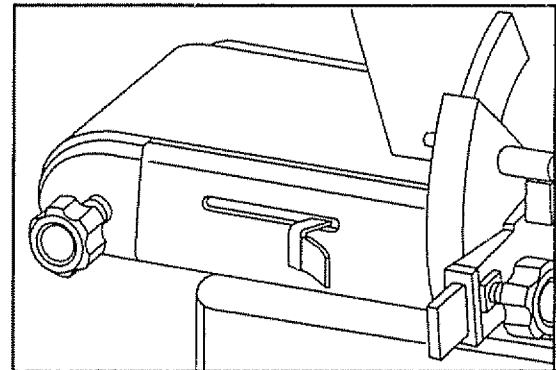

Fig. 14
■ Sanding belt tracking adjustment (see figure 14)